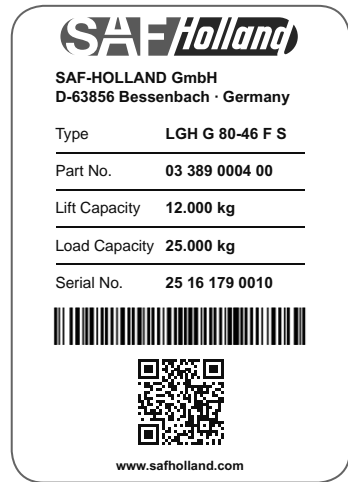

Fig. 1 - Type plate
The type plate ► Fig. 1 is located at the indicated positions
- Adhering to the performance limits ► *Fig. 1* of the product